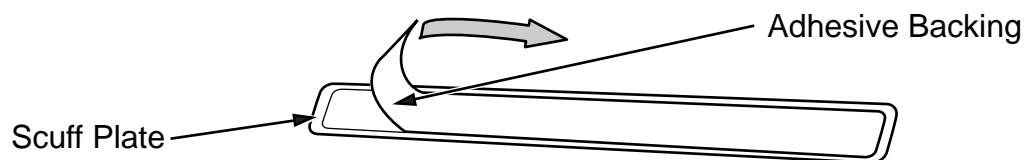

Figure 11
- A. Remove the adhesive backing from Scuff Plate and discard. (Figure 11)